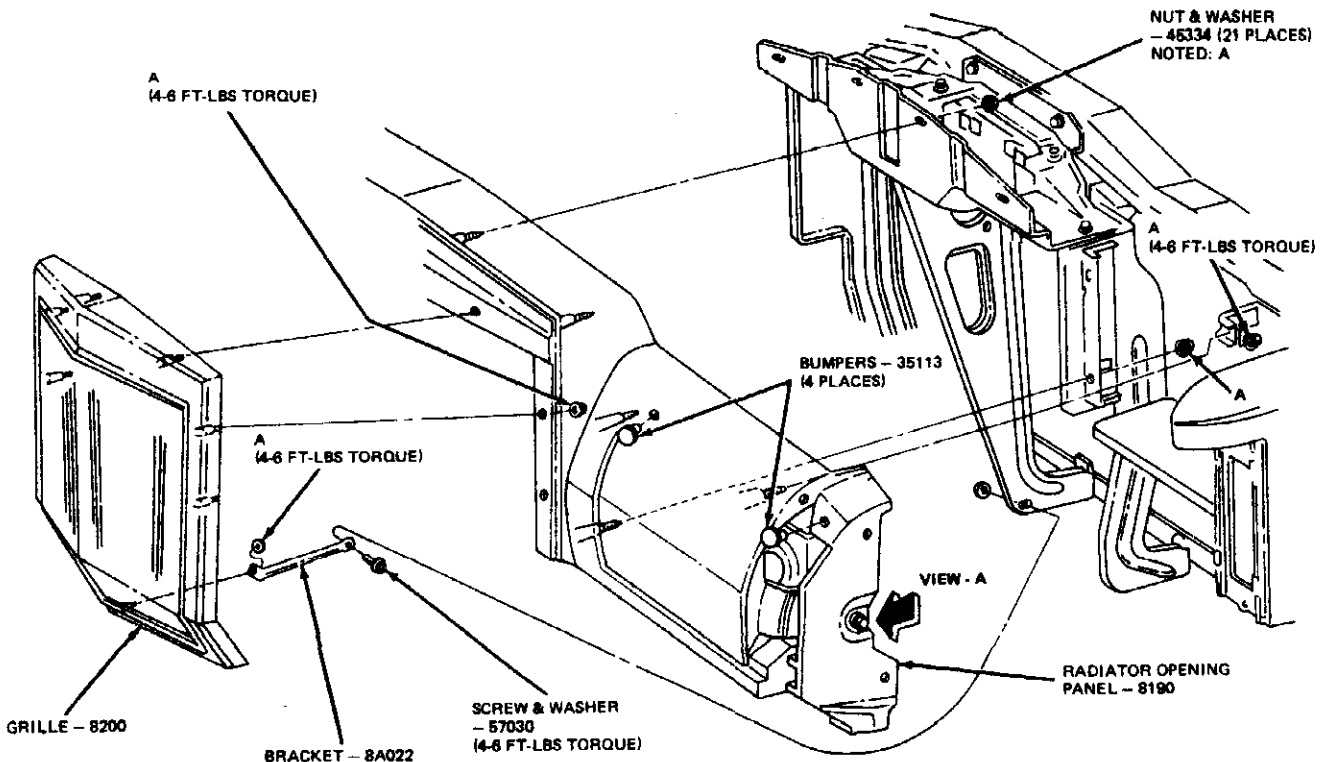

FIG. 1 Grille Installation—Continental Mark V
2. Remove two nuts retaining each side of the grille to the grille opening lower panel (Fig. 1).
3. Remove two bolts attaching each side of the grille to the grille outer support panels (Fig. 1).